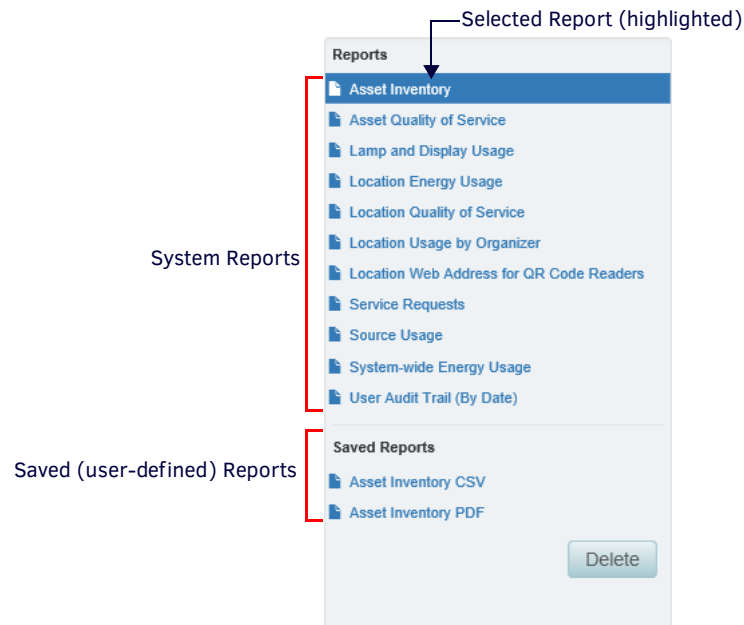

FIG. 57 Reports Page - Report Selection Window
System Reports and user-defined Saved Reports are listed in the **Report Selection** window. Click to select a Report to run or to customize and save as a user-defined report (FIG. 57).
1. In the Reports page, select a System Report to edit (under *Reports* in the Report Selection Window - see FIG. 57 on page 46).